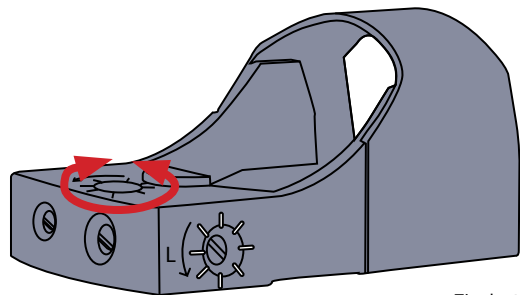

Fig. b-4
6. To move the dot down or up, use the included screwdriver to turn the top screw counter-clockwise or clockwise, respectively. (Fig. b-4)